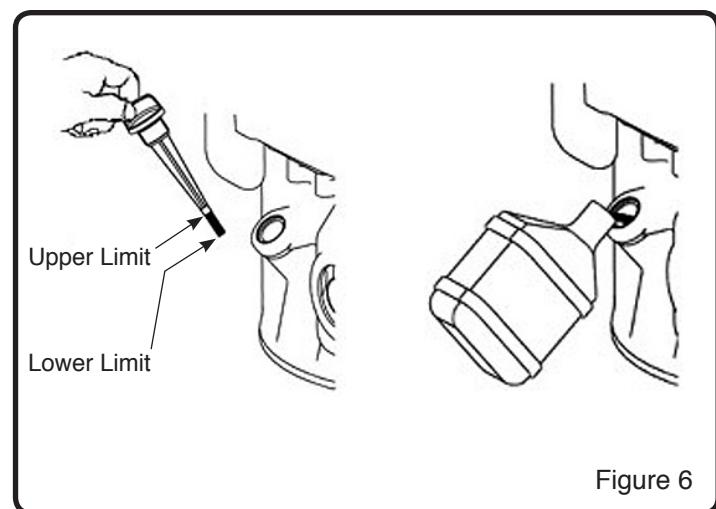

Figure 6
2. Remove Dipstick and wipe clean with cloth. Refer to Figure 6 for location of Dipstick.
4. When oil level is full, the oil will be at upper limit on dip stick. If oil level is near or below the lower limit, oil must be added. (See Figure 6)